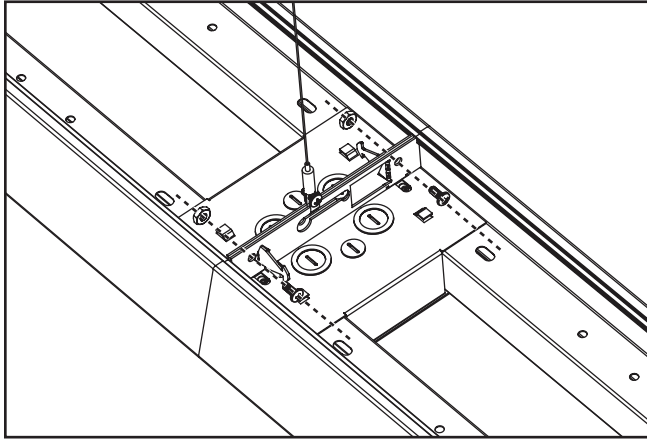

Figure 8.
5. Secure fixtures using two 10-32 x 3/8" screws and nuts. Tighten 1/4 turn past hand-tight. (Figure 8.)